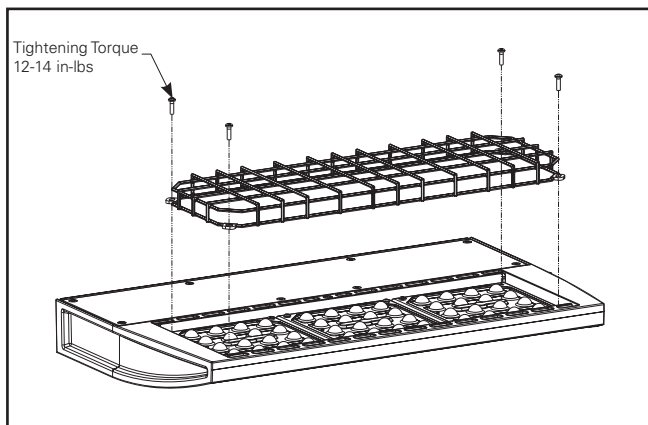

Figure 11.
1. Loosen and remove the existing (4) 8-32 torx screws on the face of the fixture (Figure 11).
3. Use (4) 8-32 Phillips screws provided to tighten the wireguard in place onto each LED square.